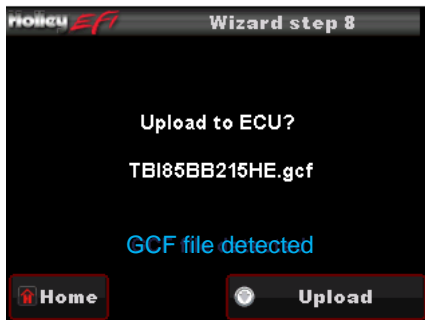
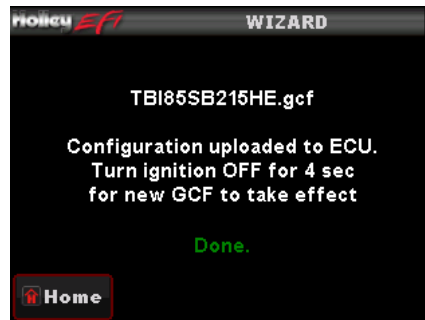

Figure 25
Figure 26
12. After entering the ignition type, your calibration will be created. Press the “Upload” button to send the calibration to the ECU (Figure 25). You will then see a screen showing “Uploading”. Finally you will see a screen indicating the file is uploaded (Figure 26). Cycle the ignition switch for the calibration to take effect.